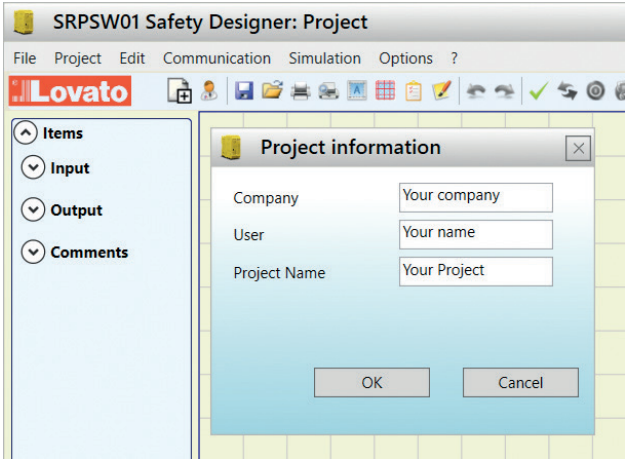

Figure 17
- The change of user parameters is obtained with the icon . The dialog user identification request appears (Figure 17). To accomplish this operation is not necessary to Log out from SRPMFA164. Generally it serves when the user must create a new project (even using a previously created).